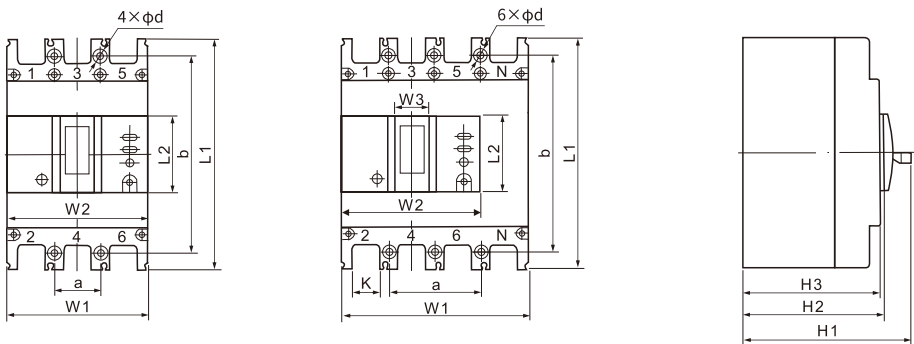

Fig3 Appearance
5.1 Appearance and Installation dimension see Fig2, Fig3 and Fig8.